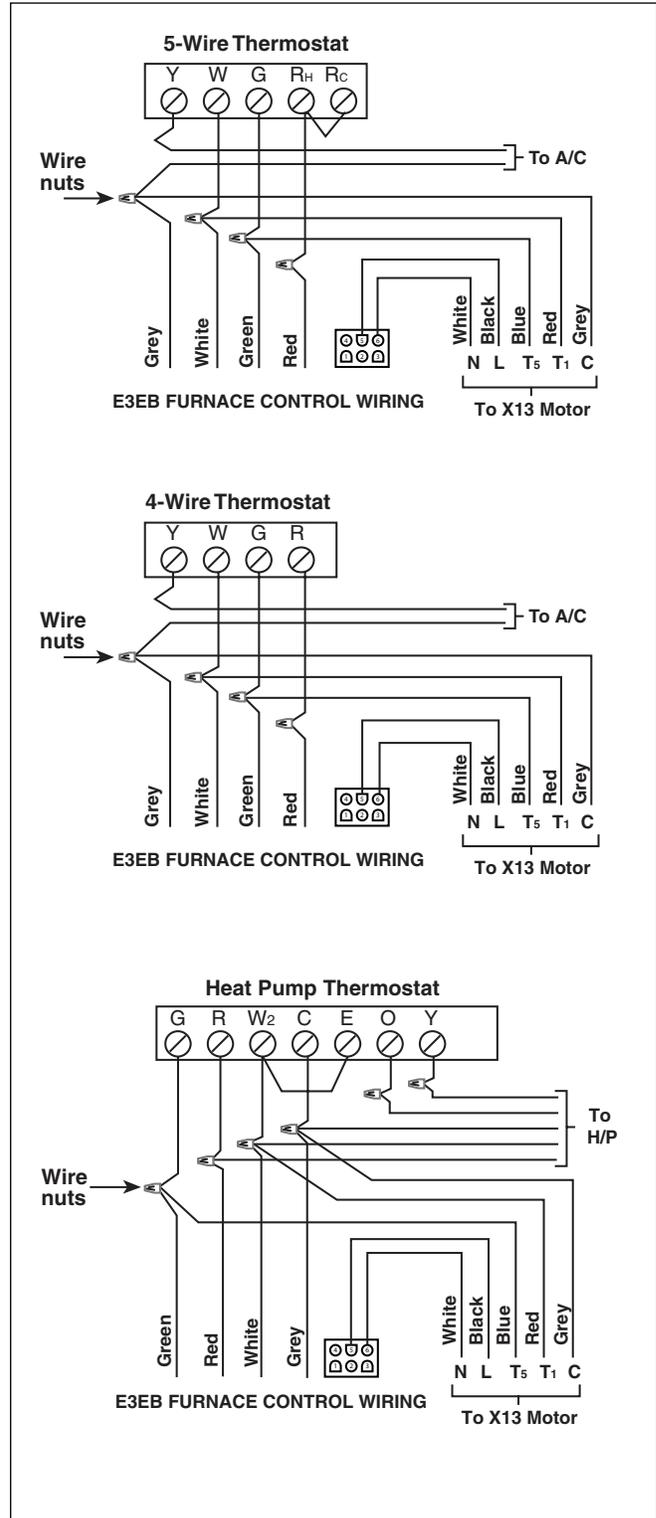

Figure 1. Thermostat Connections
8. Make the required thermostat wiring connection as shown in Figure 1.